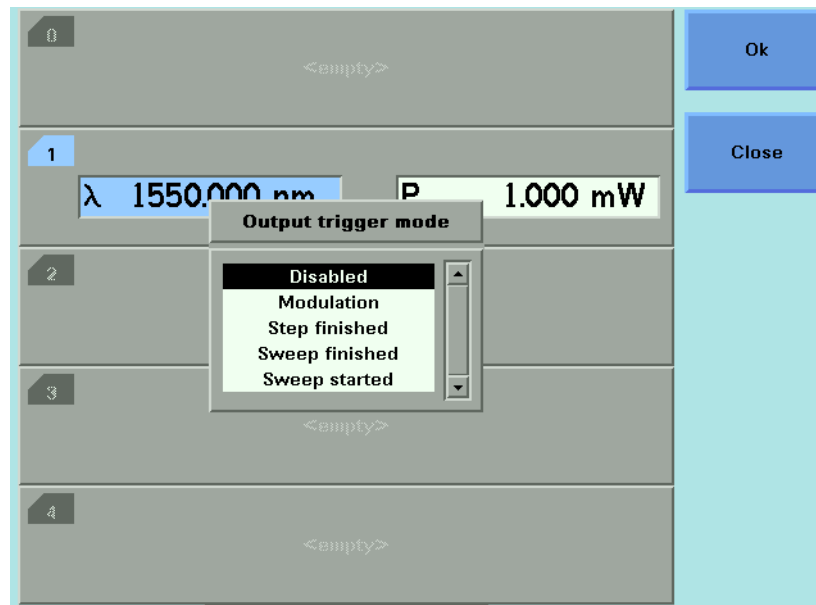

Figure 80 Output Trigger Mode
- 3 Move to <Output Trigger Mode>, by using the cursor key, and press *Enter*. You will see the screen in Figure 80.